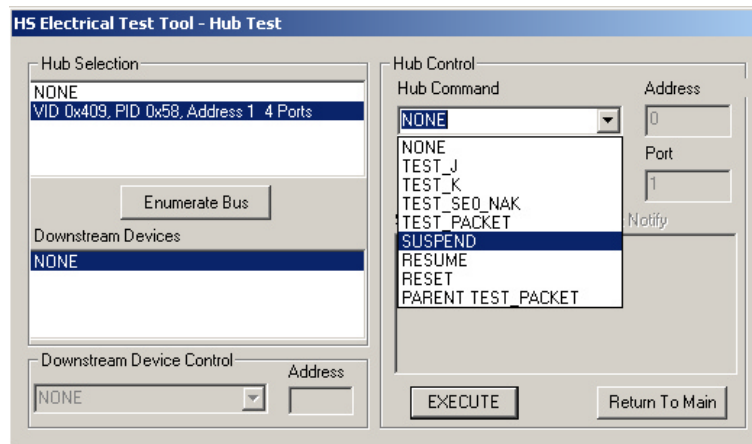

Figure 50. Hub Suspend
15. On the HS Electrical Test Tool – Hub Test menu, select SUSPEND from the Hub Command drop down menu. (Figure 50)